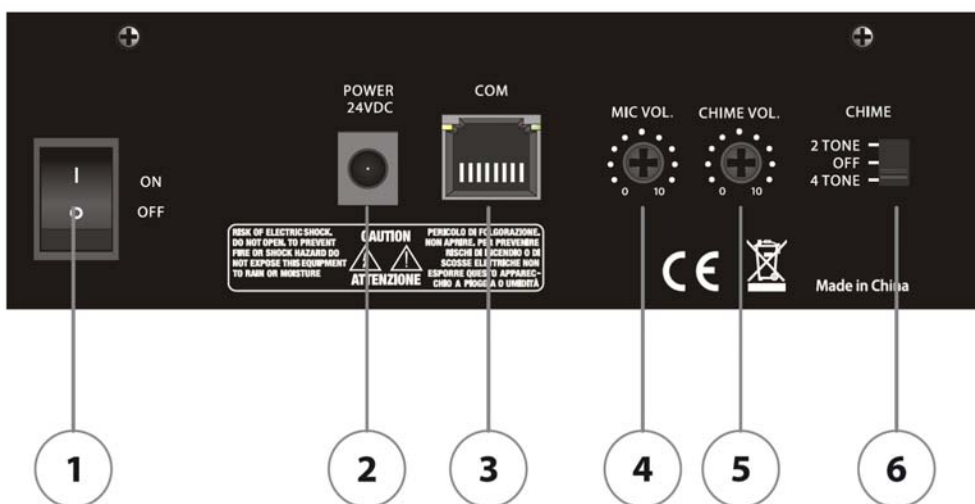

fig.3
Connect the output (fig. 3, ref. 3) to the PAGING MIC input on the MATRIX88 through the CAT5UTP cable